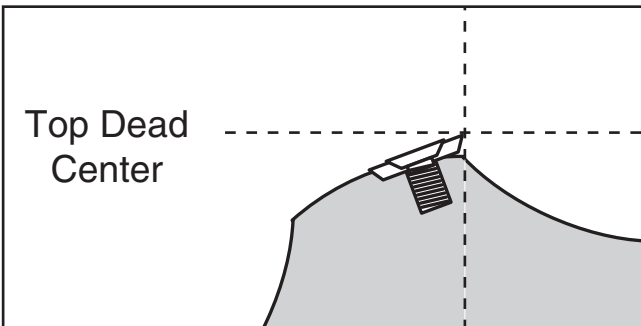

Figure 43. Cutter insert at top dead center.
3. Use the cutterhead pulley to rotate the cutterhead until one of the cutter edges at the front end of the cutterhead is at the highest point of rotation or top dead center (see **Figure 43**).
6. Use the cutterhead pulley to rotate the cutterhead until one of the cutter edges at the front end of the cutterhead is at the highest point of rotation or top dead center (see **Figure 43**).